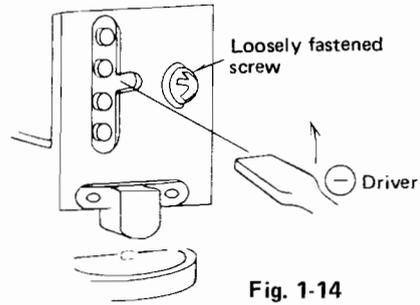

Fig. 1-14
3. Set the oscilloscope to connector SA pin ② of PCB-SERVO while observing the out put waveform adjust the gap so that the regular pulse [a] is 1.4V or more in both positive and negative directions. The head may be moved as shown in Fig. 1-14 for fine adjustment.